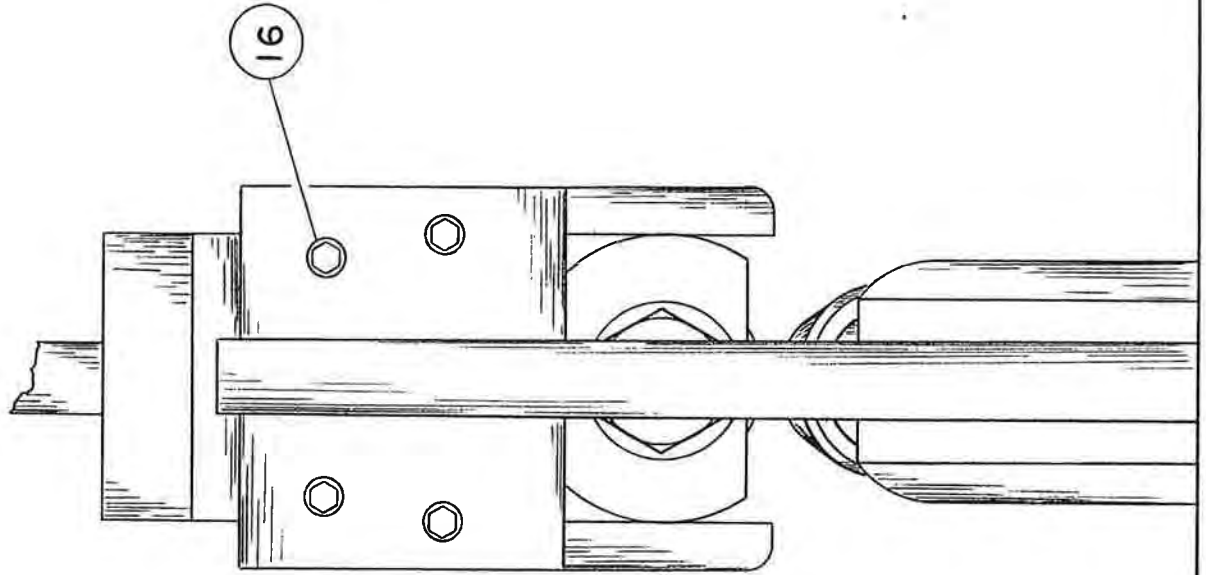
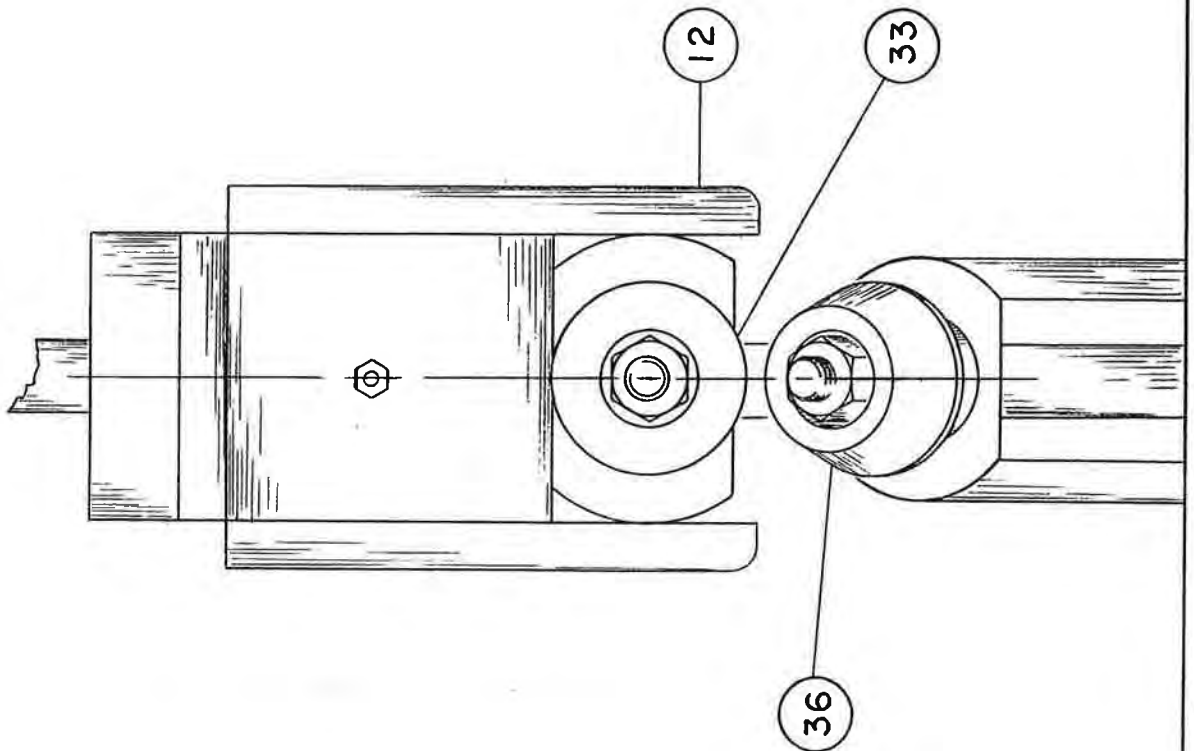

FIG. 11
FIG. 12
Looking at Page 15 Fig. 12 we see the cutting blades in perfect alignment and in Fig. 11 the four head locking bolts #16 (1) which are used to align and hold the head in alignment.
(1) See Fig. 11 Page 15
(2) See Fig. 12 Page 15
To replace the aluminum bronze bearing, first remove the four head locking bolts #16 Fig. 11 Page 15 and remove the head from the machine. Follow the same procedure as for replacing the thrust bearings, only remove the spindle carrier and feed screw nut unit from the head, then remove the cutting head top plate #11 (1) and you will be able to see both ends of the aluminum bronze bearing #9 (1). The aluminum bronze bearing is pressed into the steel head #10 (1) and will have to be pressed out of the head and a new one pressed in. The new aluminum bronze bearing must be honed to fit the feed screw nut after it is pressed into the steel head. To reassemble the head, reverse the above procedure.